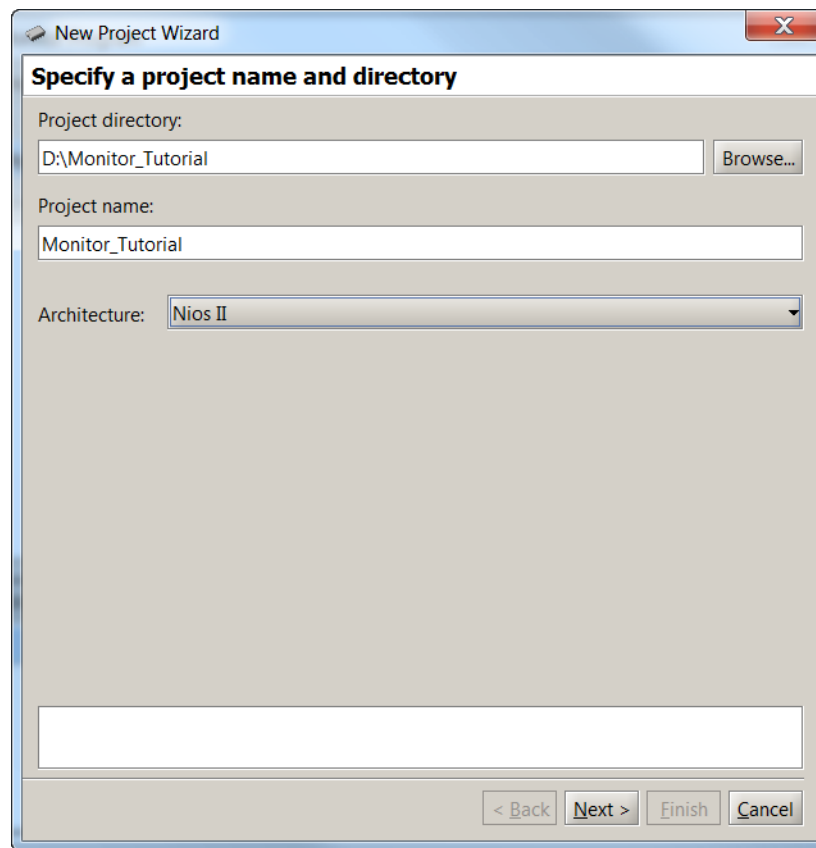

Figure 5. Specifying the project directory and name.
1. Select **File > New Project** to open the *New Project Wizard*, which leads to the screen in Figure 5. The Wizard presents a sequence of screens for defining a new project. Each screen includes a number of dialogs, as well as a message area at the bottom of the window. The message area is used to display error and information messages associated with the dialogs in the window. Double-clicking the mouse on an error message moves the cursor into the dialog box that contains the source of the error.
In Figure 5 we have specified the file system directory *D:\Monitor_Tutorial* and the project name *Monitor_Tutorial*. For simplicity, we have used a project name that matches the directory name, but this is not required.
The Monitor Program can be used with either an ARM-based system or a Nios II-based system. The choice of a processor is made in the window in Figure 5 in the box labeled **Architecture**. We have chosen the Nios II architecture for this tutorial.